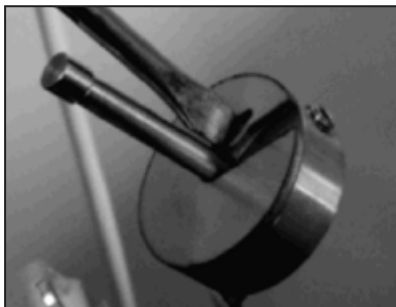

Figure 10-13: Fitting slotted disc weight
- Slide both the weights to the end of the shaft and secure by tightening the grub screw in the fitted weight. Refer to Figure 10-13.